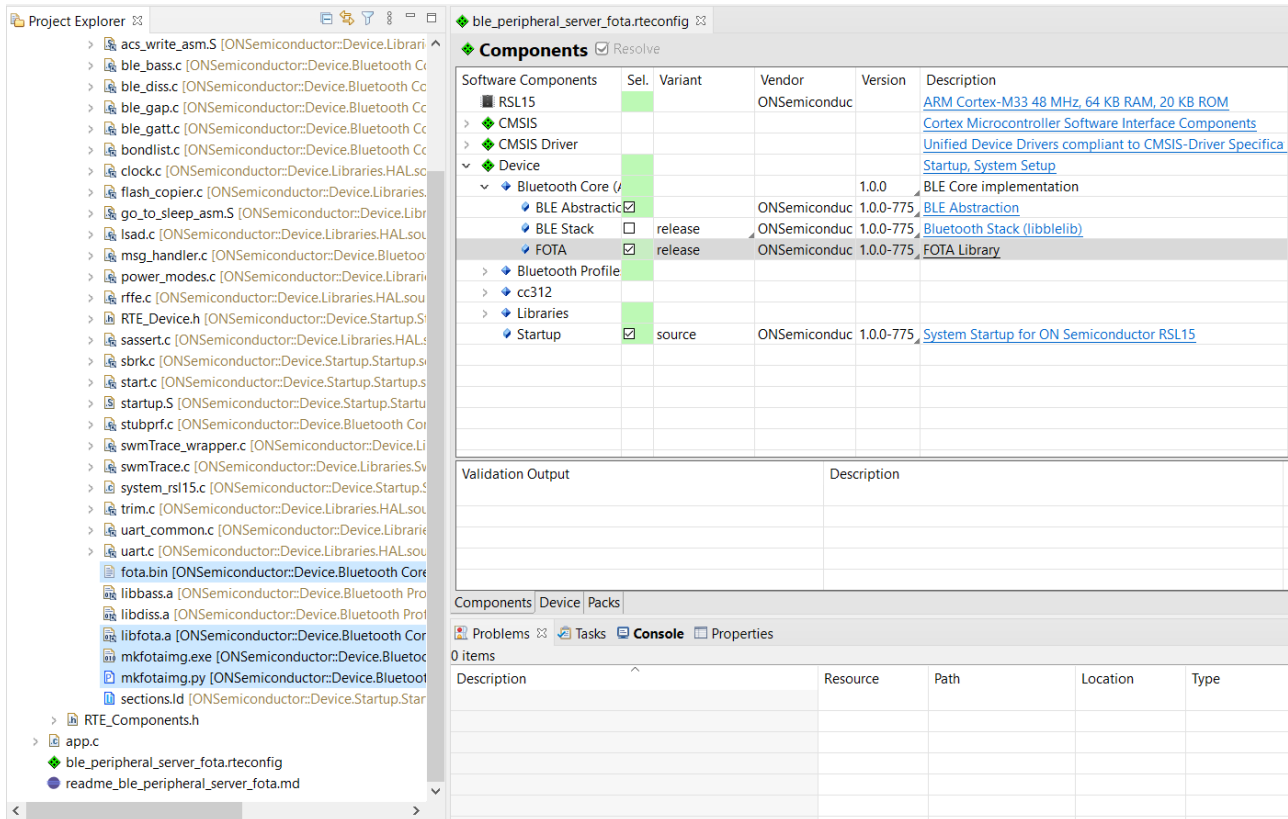

Figure 6. Files in FOTA Sample Project
3. The C/C++ perspective opens and displays your newly copied project. In the **Project Explorer** panel, you can expand your project folder and explore the files inside your project, as seen in the "Files in FOTA Sample Project" figure \(Figure 6\).
Project" figure (Figure 6). On the right side, the *ble_peripheral_server_fota.rteconfig* file displays the selected software components, including the new component named **FOTA**. If you expand **RTE > Device > <device>**, you can find the FOTA library (*libfota.a*), the FOTA Bluetooth Low Energy Stack binary file (*fota.bin*), and *mkfotaimg.exe*. These files are automatically added to your sample project once the FOTA component is selected.